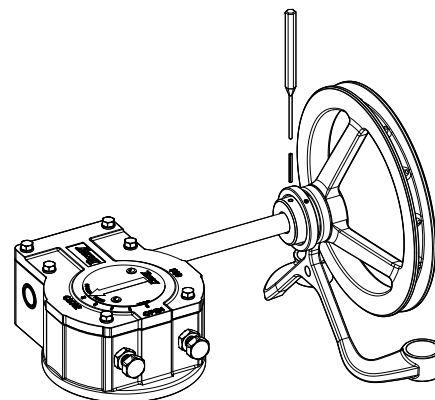

Figure 4
4. Insert the new slotted pin through the aligned pin holes of the chainwheel and input shaft. Ensure the pin is driven straight and it does clear through both holes. See **Figure 4**.